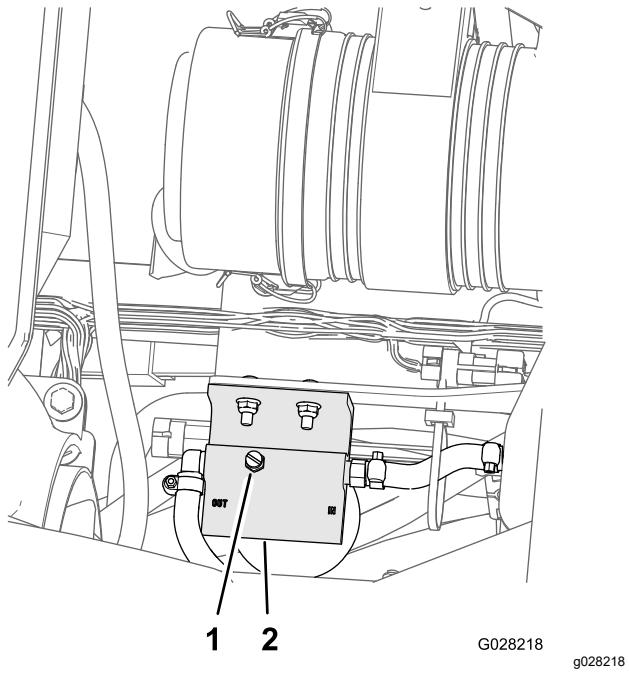

Figure 78
5. Loosen the vent plug at the top of the fuel/water separator (Figure 78).
7. Tighten the vent plug and turn the starter switch to the OFF position (Figure 78).